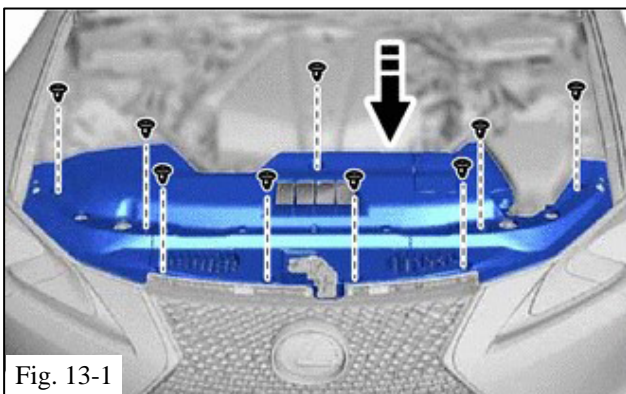

Fig. 13-1
- (b) Reengage the clips removed in Step 2(a) to secure the radiator lower air deflector (Fig. 13-1).